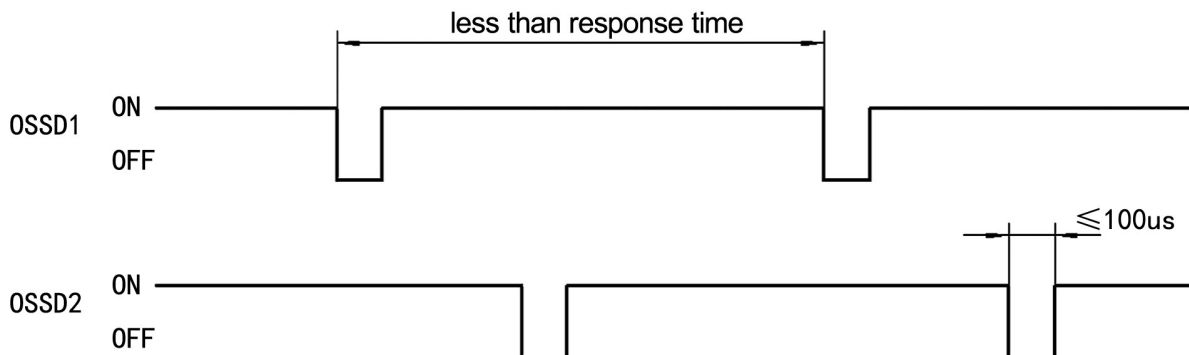

Fig 2.2.1 Security Output Detection Diagram
- While SMT1 light curtain is in light-passing state, OSSDs outputs ON-state signal with periodical OFF-state signal, as shown in Fig 2.2.1. When OSSDs output circuit failure or be shorted with other interface signals, the detect signal varies, and feedback wrong state, the system turns into lockout state, the fault indicator flicker output, after the fault resolved, the system automatically steps out of the fault state.